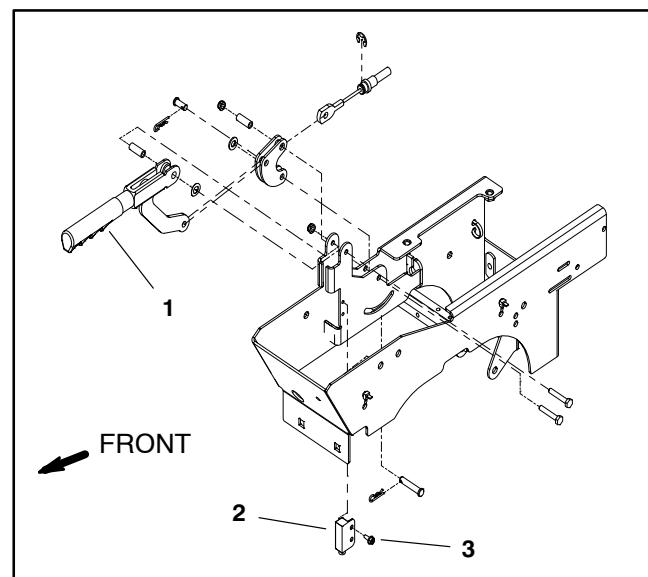

Figure 16
The parking brake switch is a normally closed proximity switch that is attached to the control lever support (Fig. 16). The switch is in its normal closed position when the parking brake **is applied**. When the parking brake **is not** applied, the parking brake lever is positioned close to the brake switch causing the switch to open. The closed brake switch is used in the starting interlock system to make sure that the drive system is disengaged during engine starting.
1. Park vehicle on a level surface, shut engine off, remove key from ignition switch and apply parking brake. Locate the parking brake switch (Fig. 16).
4. With the use of a multimeter (ohms setting), test for continuity across the two (2) switch terminals. There **should be** continuity (zero ohms) when the parking brake is applied and there **should not be** continuity (infinite ohms) when the parking brake is released.